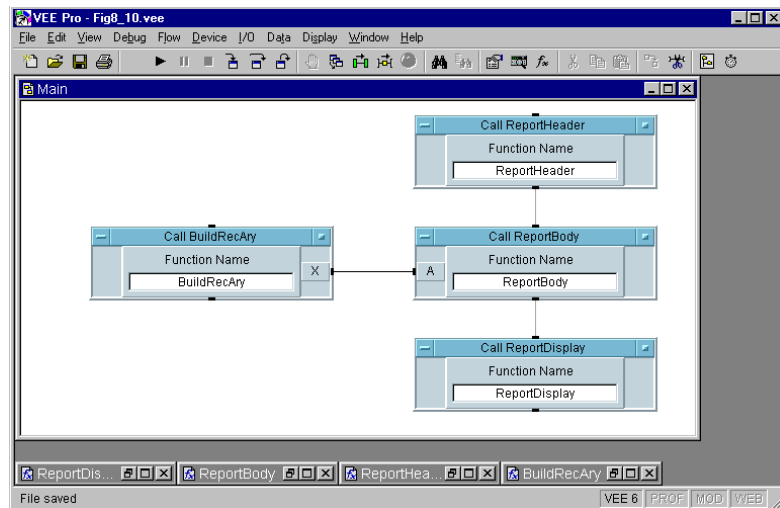

Figure 8-11. Report.vee from the Top Level
- b. In Main, create four Device \Rightarrow Call objects configured and connected as shown in Figure 8-11. Save the program as Report.vee.